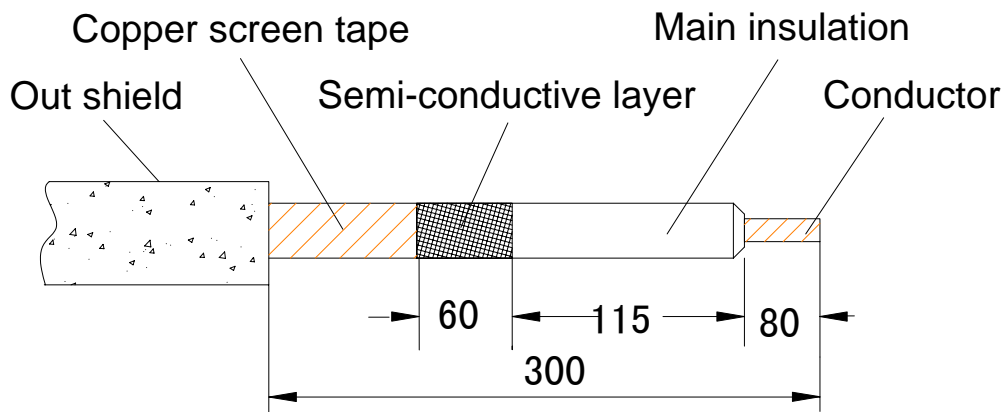

Fig.1
1. 1 Straighten the cable and cut trimly, strip the cable according to Fig 1.
1. 2 Strip the semi-conductive layer as the size shown on Fig.1. Make sure the main insulation is not scratched. Use PVC tape to wrap the cable core and copper screen tape against the dispersing. The semi-conductive layer and the core insulation have incline angle 4X45° for even transition.